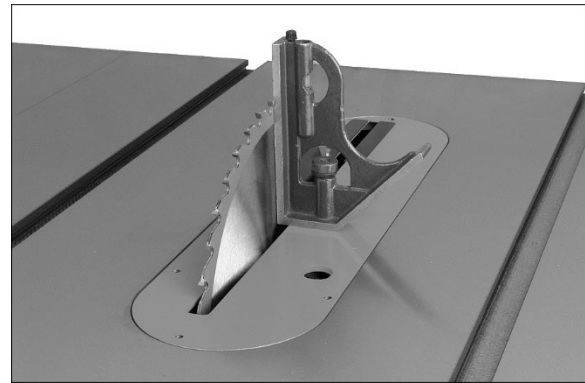

Figure 8-4
- Raise blade to highest position, and place a square on table and against blade (Figure 8-4). Make sure that a blade tooth does not obstruct the actual reading.